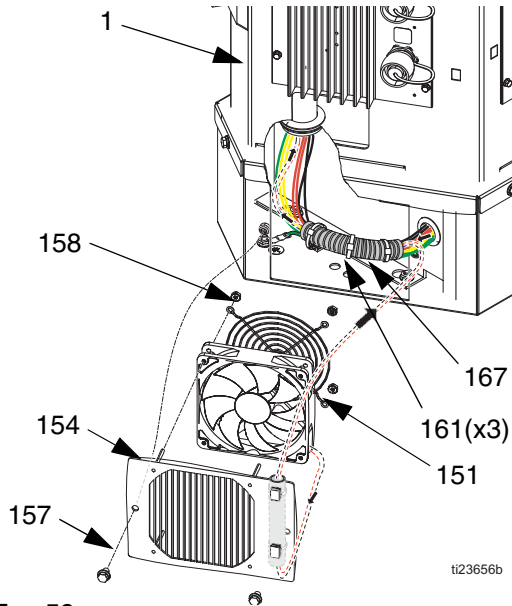

FIG. 59
4. Reinstall corrugated tube (167) on fan and transformer wires. See FIG. 59.